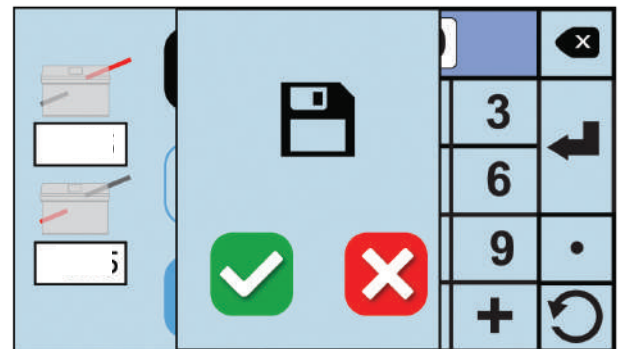

Fig. 42
3. Press the save icon  to save the adjustments. A confirmation screen will appear (Fig. 42). Press the green check box to accept the change or the red X box to cancel the change.